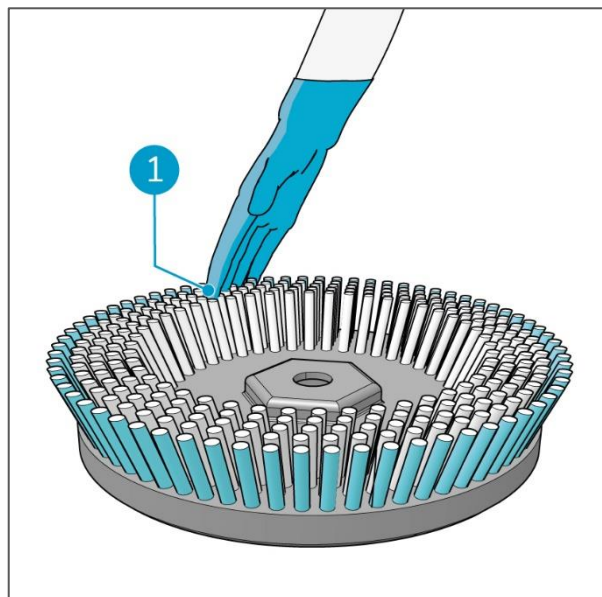

Figure 43
3. Carefully remove the debris from each disc brush by hand (Figure 43, pos 1).